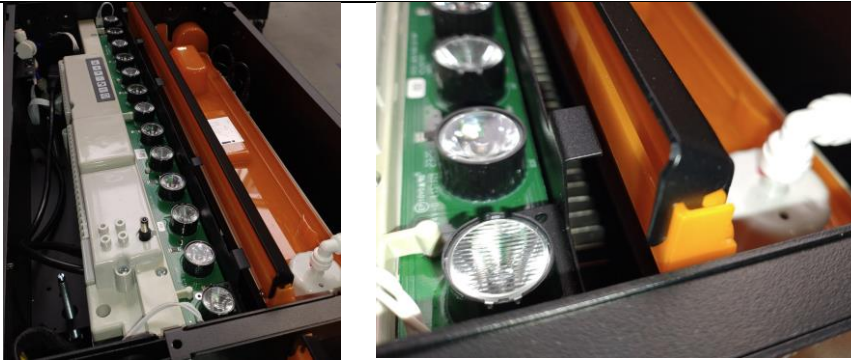

Fig 12
4. Disconnect the electrical connector to the transducers, located on the right side of the sump. (Fig 12).